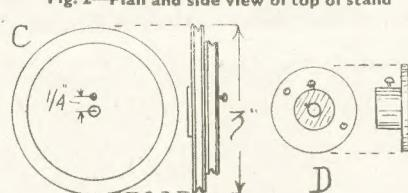

Fig. 3—Details of driving wheel and pulleys
The driving wheel, Fig. 3 (C) consists of a pair of fretwood discs, glued together, and bored through with a $\frac{1}{4}$ in. hole. The smaller disc is $2\frac{1}{2}$ in. diameter and both should be cut with accuracy. A groove on the edges to hold the belt, can be filed round, using a three-cornered file for the purpose.